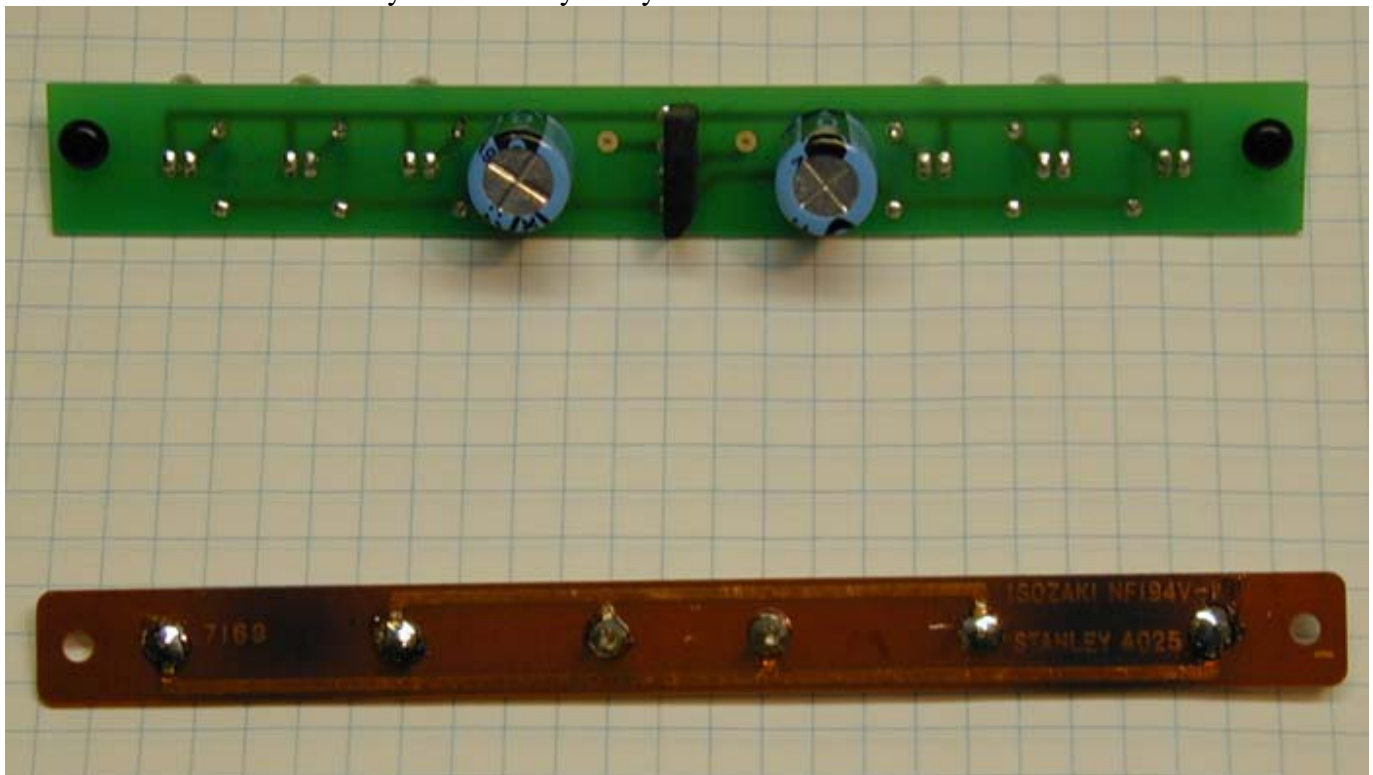

Figure 6 Bottom side assembly
4. Refer to Figure 6 for the next steps. Flip the board over to the non silkscreened side as shown in the figure. The next 3 components will be installed from the backside of the board.